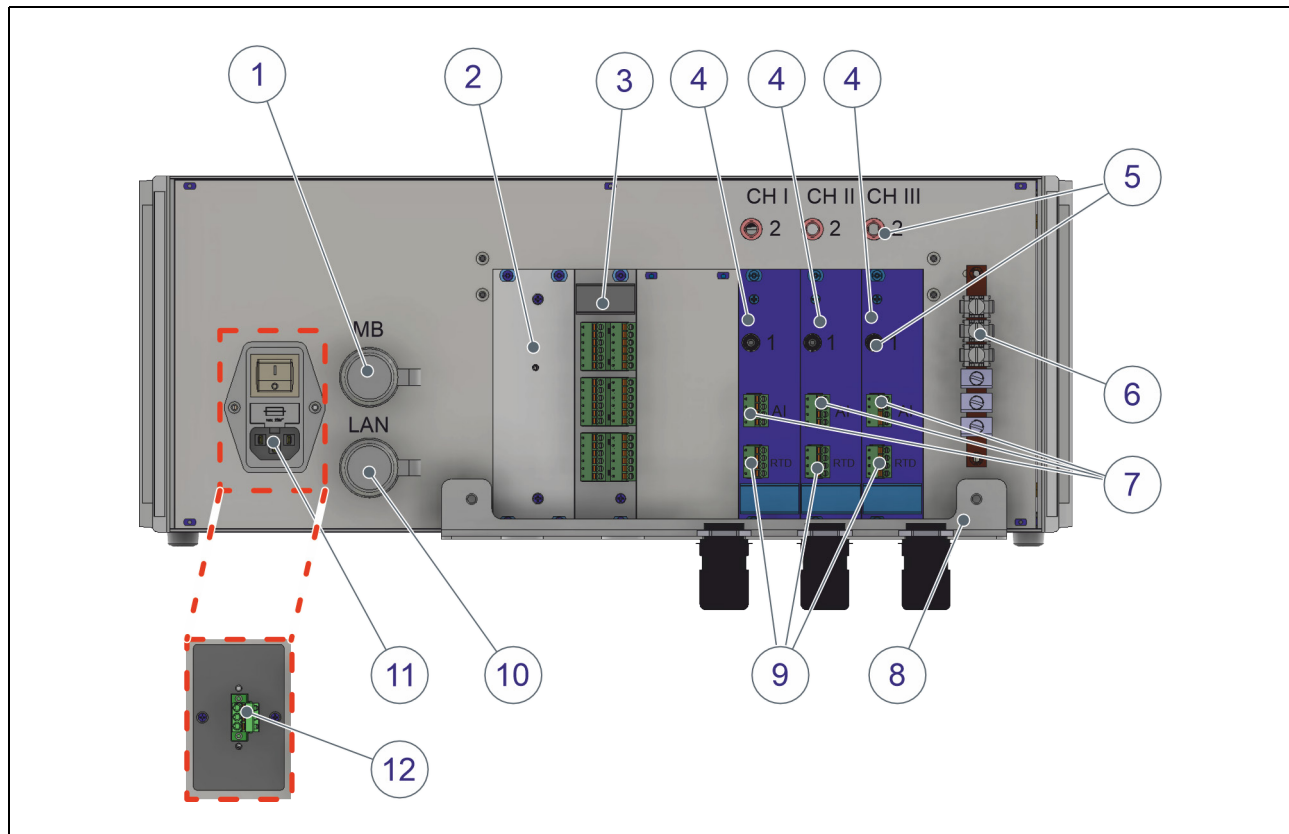

Figure 4.2: Device overview front side and inside
- ☞ Additionally you can connect the grounding cable to the grounding bar on the backside (see *Figure 4.2 on page 24*).
- ☞ Connect the power cable to the device (see *Figure 4.2 on page 24*).